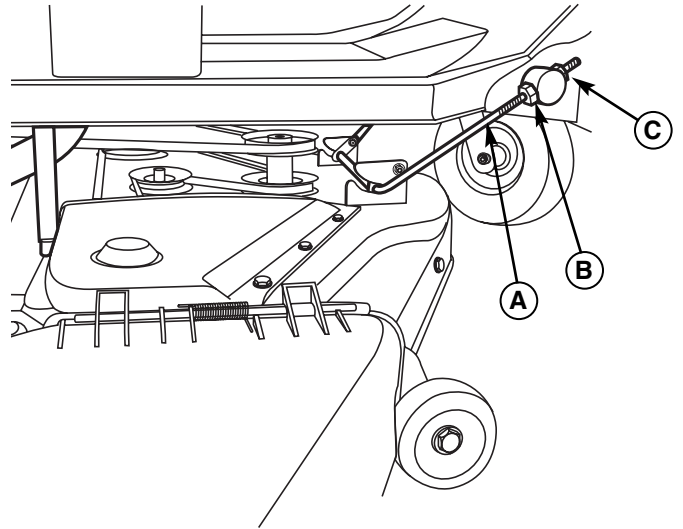

Figure 54. Front-to-Back Leveling
2. The front mower hitch rod (A, Figure 54) is used to adjust front-to-back leveling. To raise or lower the front of mower deck, loosen the two rear jam nuts (B) on both sides of the hitch rod (A). Adjust the front jam nuts (C) on both sides of the hitch rod (A) to adjust the deck level. When adjusted correctly, tighten the rear jam nuts (B) to lock hitch rod in place.